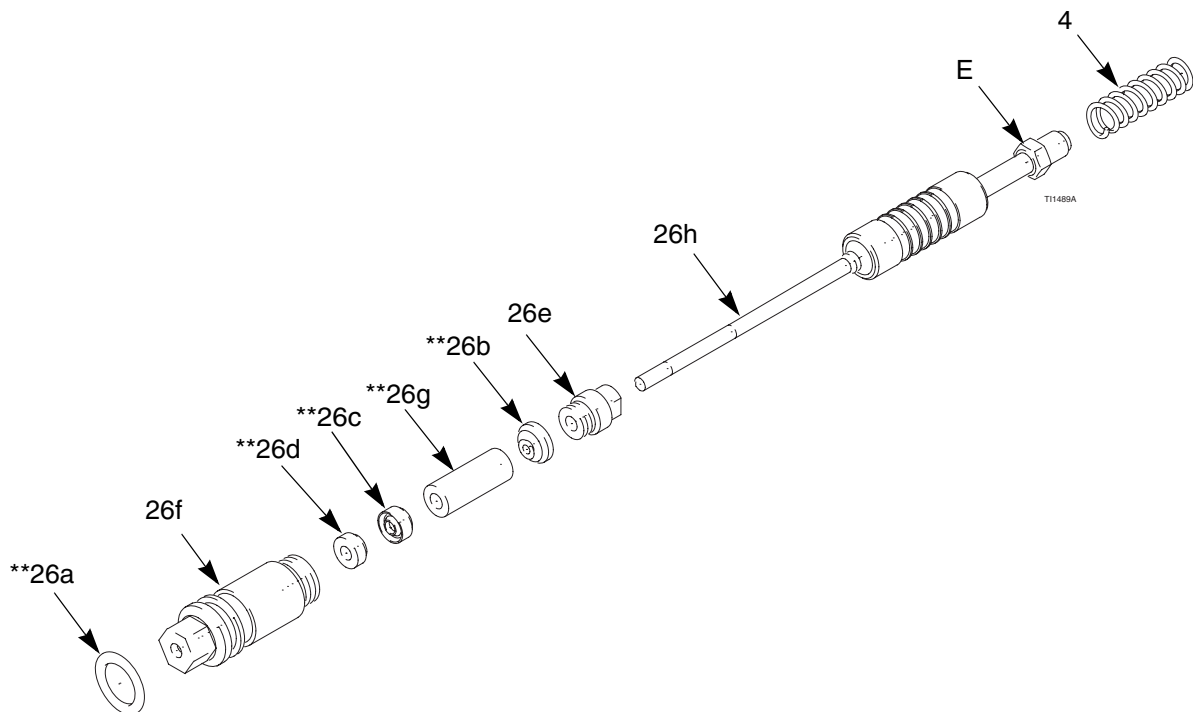

Fig. 27. Packing Rod
1. Place the packing nut (26e) and seal (26b**) on the fluid rod (26h). Flats on the packing nut must face the back of the fluid rod. The seal o-ring must face away from the packing nut. See FIG. 27..
2. Fill the inner cavity of the spacer (26g**) with dielectric grease (40). Place the spacer on the fluid rod (26h) in the direction shown. Generously apply dielectric grease to the outside of the spacer.
6. Install the spring (4) against the nut (E) as shown.
7. Install the packing rod assembly (26) into the gun barrel. Using the multi-tool (37), tighten the assembly until just snug.
8. Install the trigger (30) and screws (8).